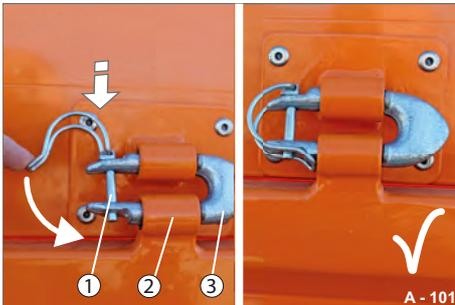

Fig. 108 Hinges, secured
- ▶ Stick the U-bracket (Fig. 108/3) into the hinge bearing (Fig. 108/2). If necessary, use a plastic hammer to drive in the U-bracket.
- ▶ Stick the socket pin (Fig. 108/1) from above into the bore holes of the U-bracket (Fig. 108/3).
- ▶ Swing the spring clamp (Fig. 108/1) downwards.